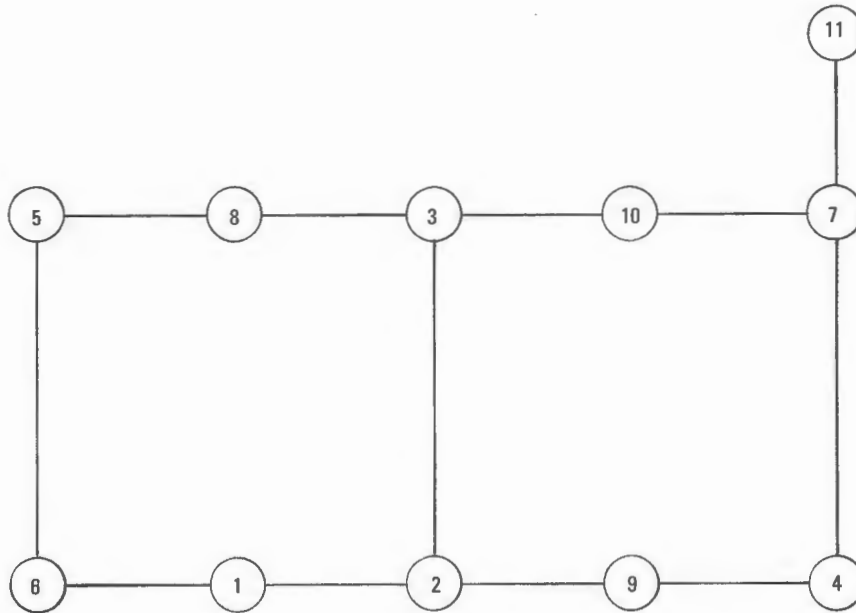

FIGURE 5-2 CRANKCASE BOLT TORQUING SEQUENCE
- f. Insert eleven attaching bolts, washers and lockwashers with longer bolts at positions 4, 5, 6, 7, & 8. Loosely tighten the bolts, then torque all bolts down evenly to 15 - 18 foot-pounds maximum in accordance with sequence shown in the illustration. Figure 5-2